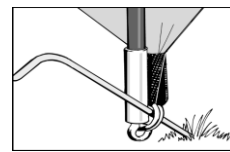

Figure 2.
- Locate one end of pole onto the corresponding metal pin (*figure 2*)
- Peg the corners of the tent through the metal rings using pin-pegs (*figure 2*)